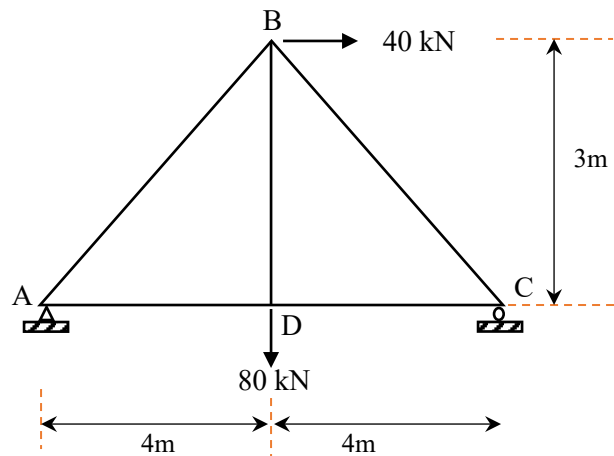

Figure A1(b) / Rajah A1(b)
- (b) A statically determinate truss is subjected to the external loads as shown in **Figure A1(b)**. Given the cross sectional area, $A = 400 \text{ mm}^2$ and modulus of elasticity, $E = 200 \text{ kN/mm}^2$.